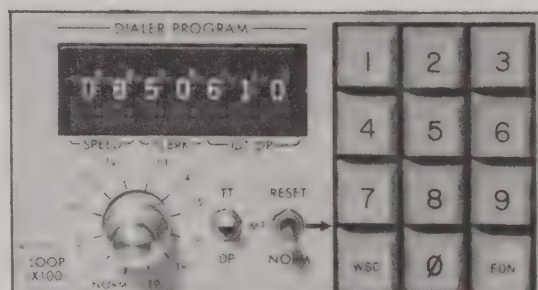

Fig. 10—Dialer Program Controls
3.27 The dialer program defines the number to be dialed, the type of dialing, and certain dialing parameters. The DIALER PROGRAM controls are shown in Fig. 10.